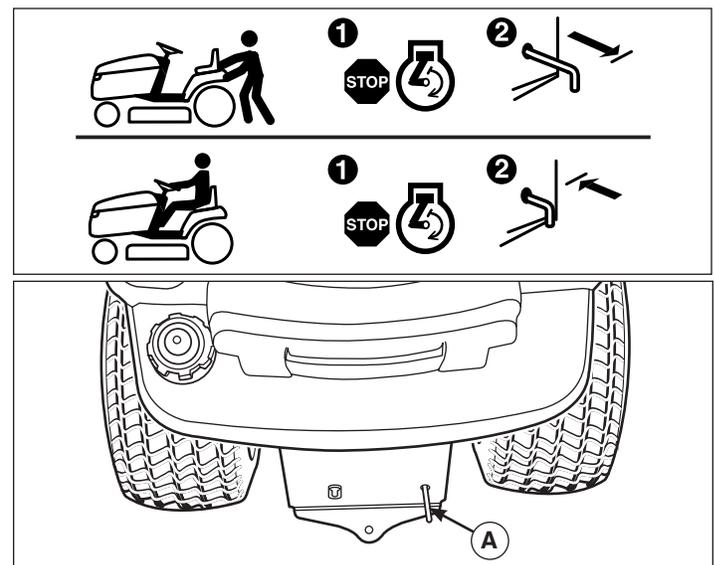

Figure 8
2. Pull the transmission release (**B**, Figure 8 or 9) back approximately 2-3/8" (6 cm) to lock into released position.